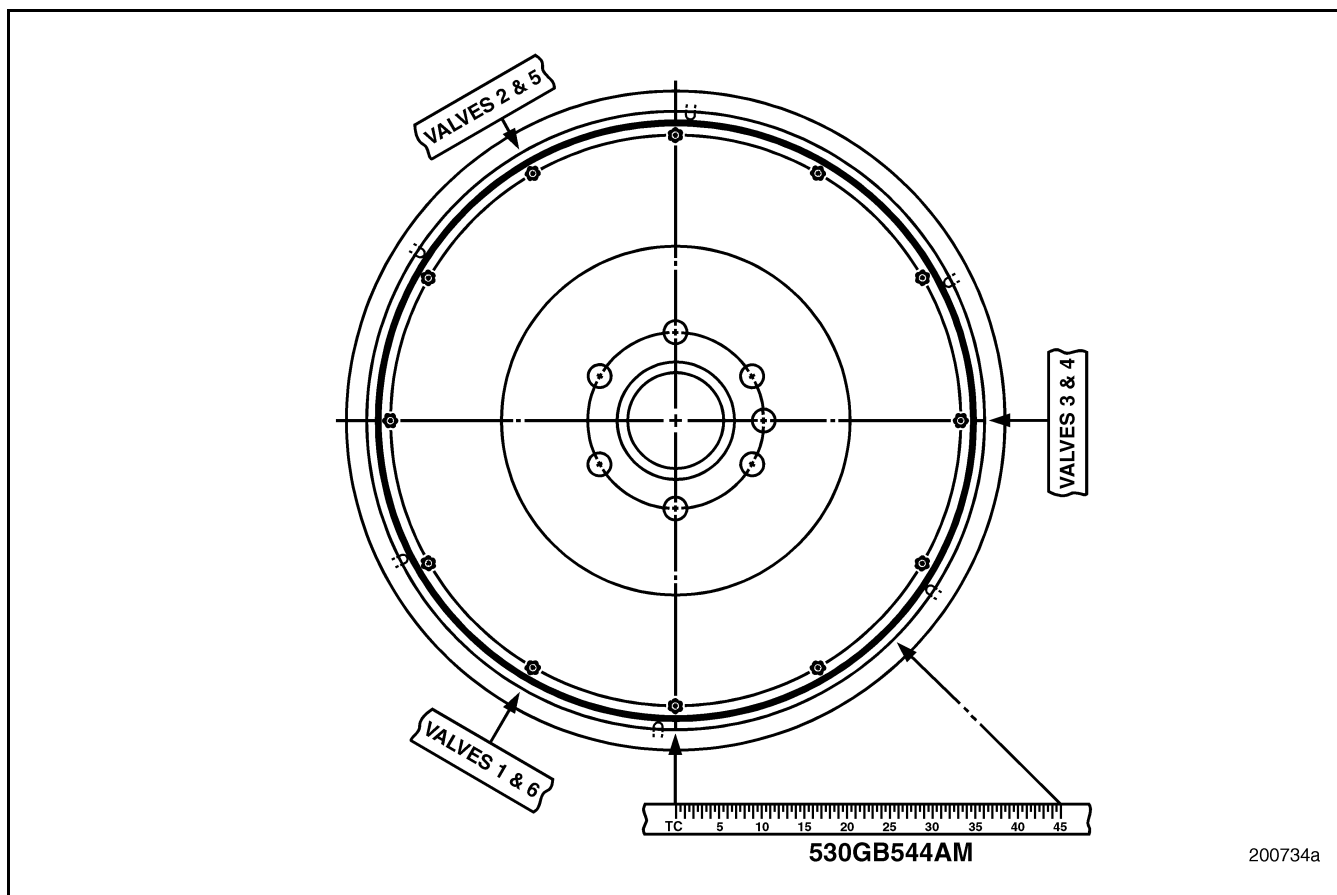

Figure 325 — Flywheel Marks
On a typical flywheel, the top center (TC) markings, and the valve adjustment markings, are directly in line with the clutch mounting bolt/bolt holes. To determine if the engine is equipped with a typical flywheel, view the flywheel through the timing access hole in the flywheel housing. Align the TC markings with the timing pointer. If the flywheel is typical, there should be a clutch mounting bolt/bolt hole directly in line with the TC marking. In this case, the valve adjustment markings should be in line with a clutch mounting bolt at three locations. Refer to Figure 325.